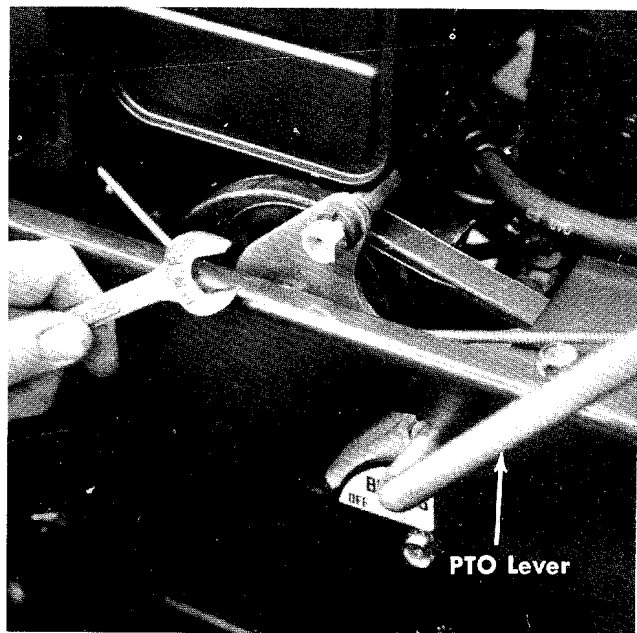

FIGURE 17. IDLER BELT GUARD
- m. Move the PTO lever to the ON position and reassemble the idler belt guard. See figure 17.